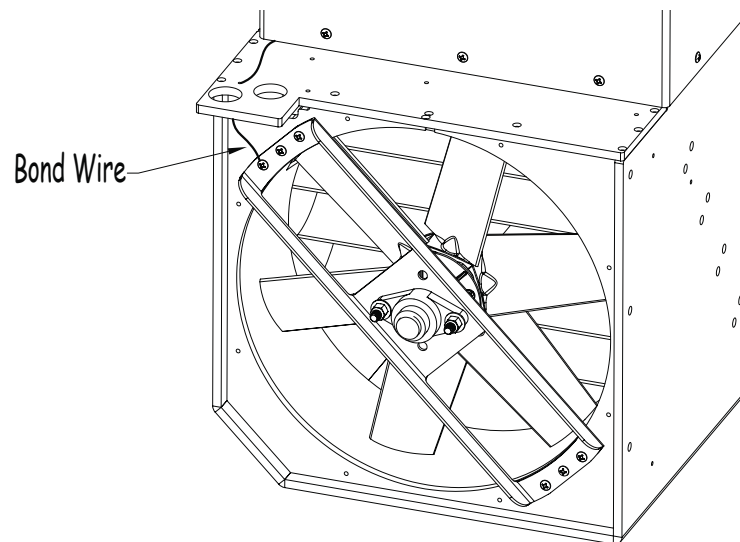

Fig 19
18. Disconnect the bond wire from the bonding screw on the non-dive side of the propulsion system base (opposite of the drive or motor side) (Fig 19).